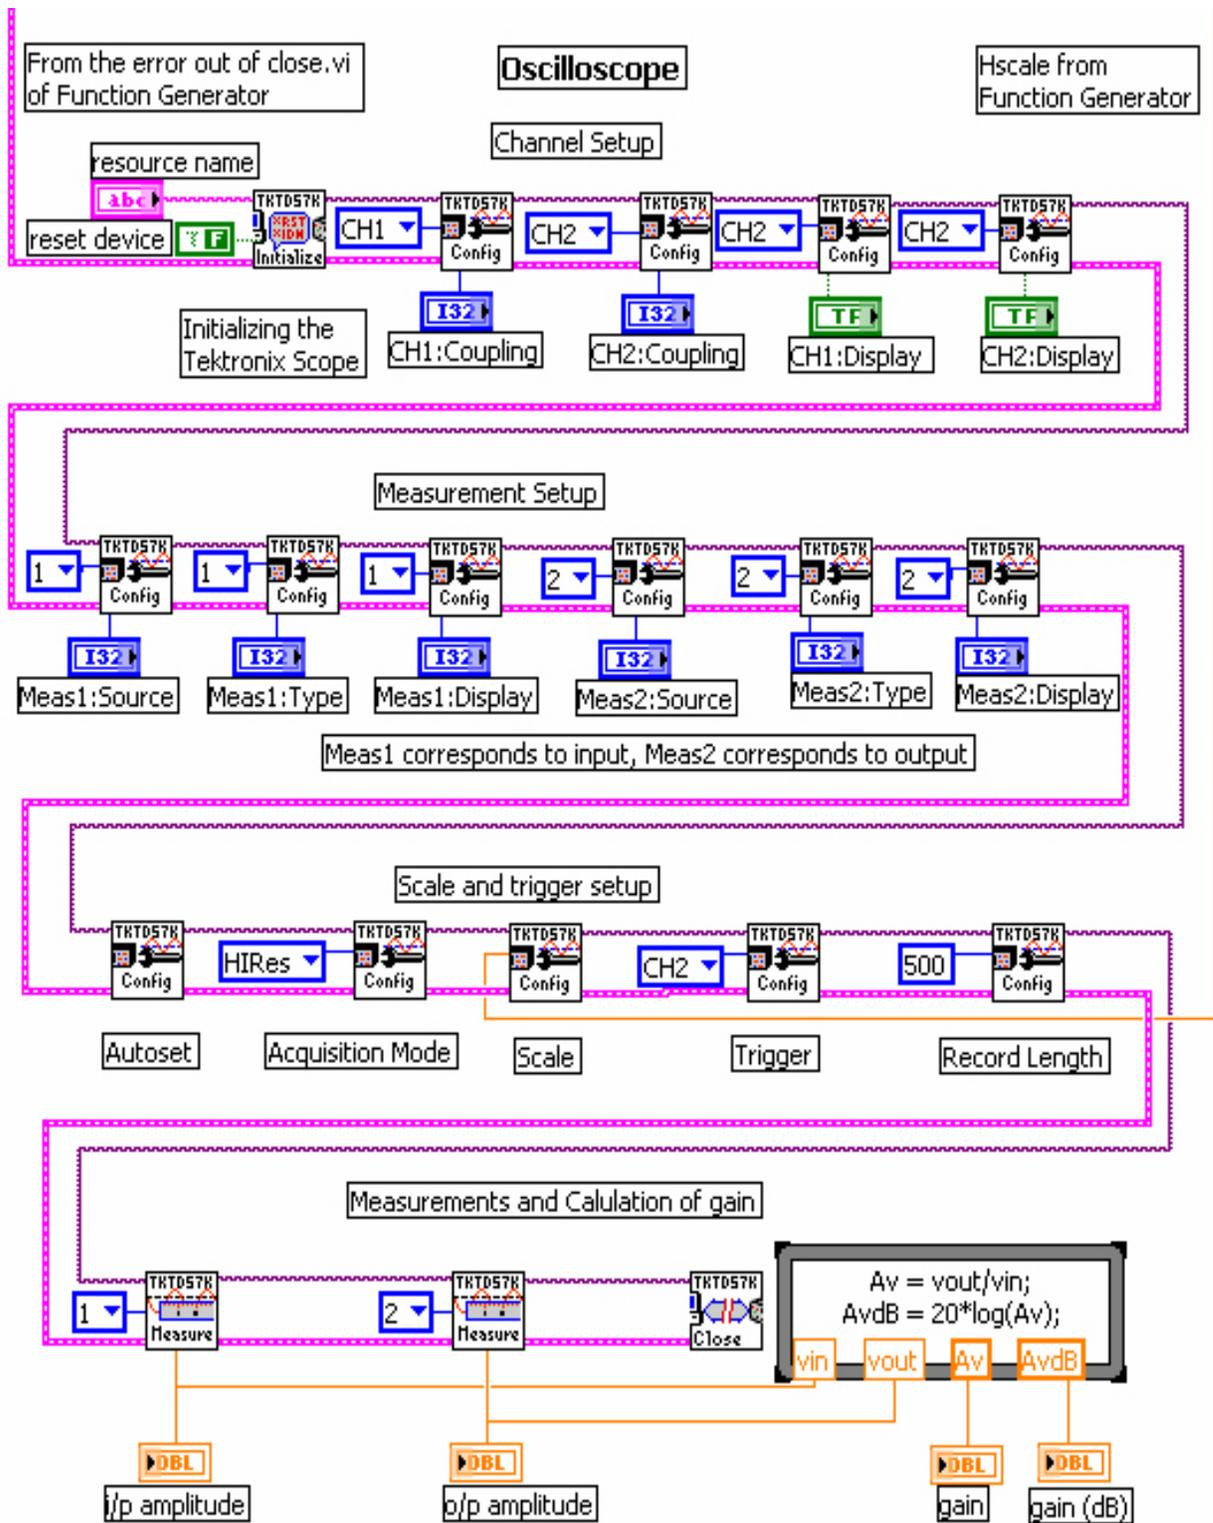

Figure 8: VI part for the oscilloscope
6. Create constants, controls, and indicators and connect as shown in the Figure 8.